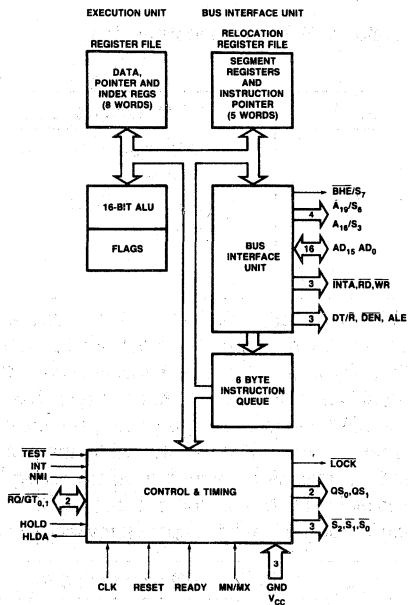

Figure 1. 80C86A
The internal functions of the 80C86A processor are partitioned logically into two processing units. The first is the Bus Interface Unit (BIU) and the second is the Execution Unit (EU) as shown in the block diagram of Figure 1.